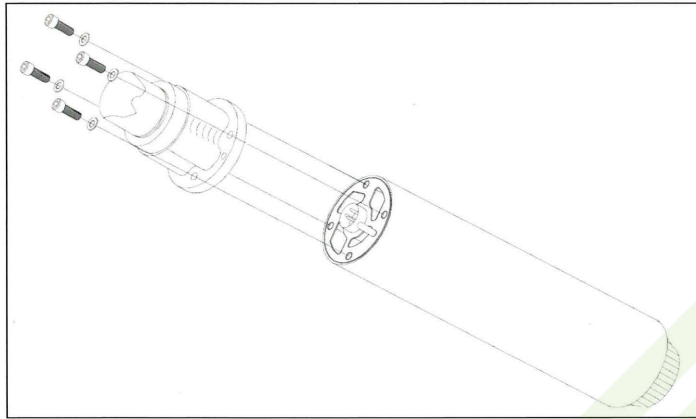

Figure 18 Remove the FSP
2. Remove the old FSP by removing the four bolts holding the discharge head as shown in Figure 18.